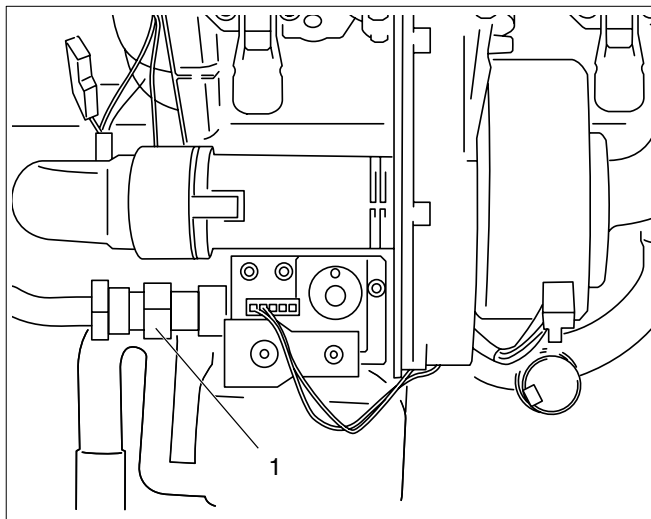

Fig. 83 Loosening the union nut
- Loosen the union nut of the gas control valve (see fig. 83, pos. 1).